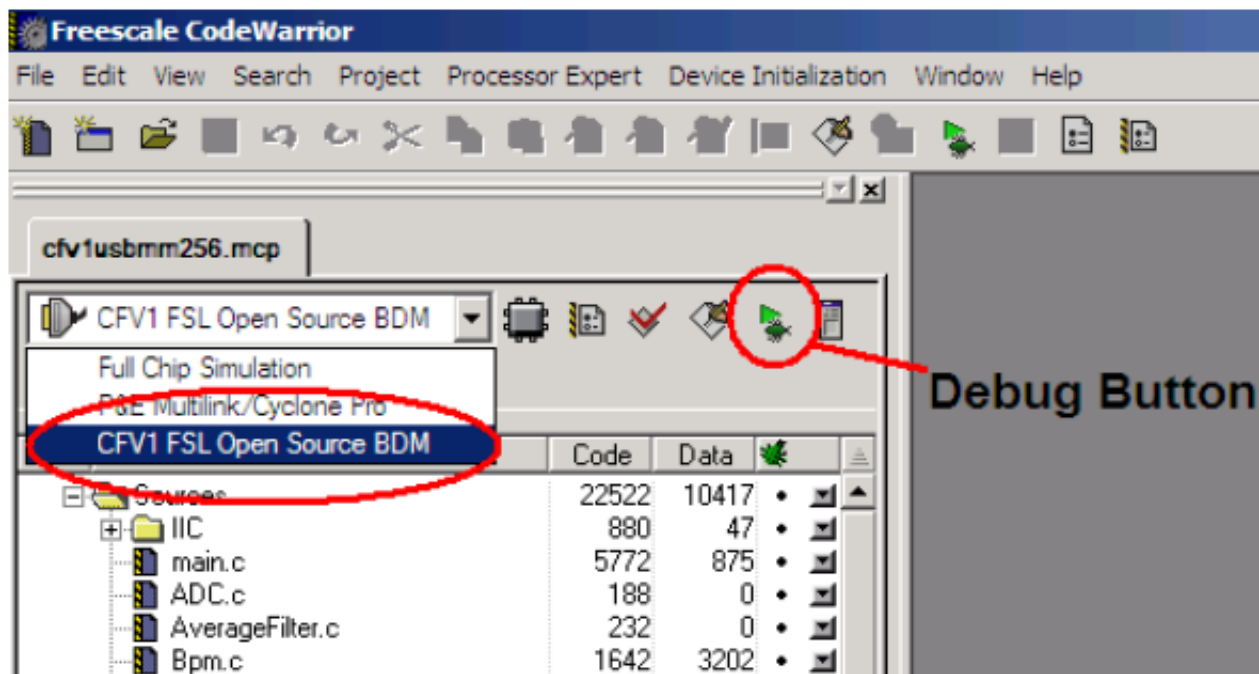

Figure 21. CodeWarrior window
2. Open the CodeWarrior project for the MM module to be used and verify that the option Open Source BDM is selected for debugging (Figure 21). Then, press the Debug button to automatically compile the program and load it into the MCU.